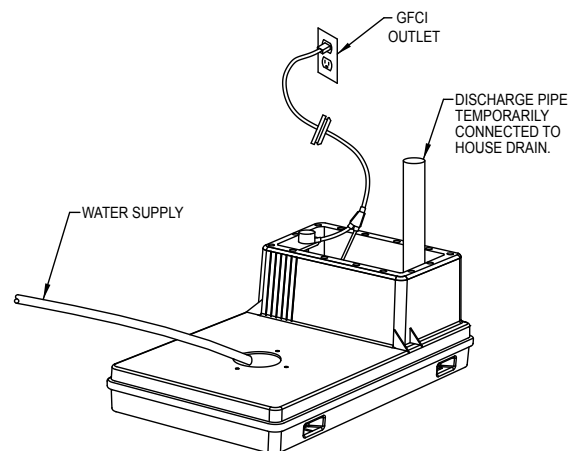

Figure 6.1
- 6.3) Fill the tank with 4” of water as shown in Figure 6.1. The pump should not turn “ON”!